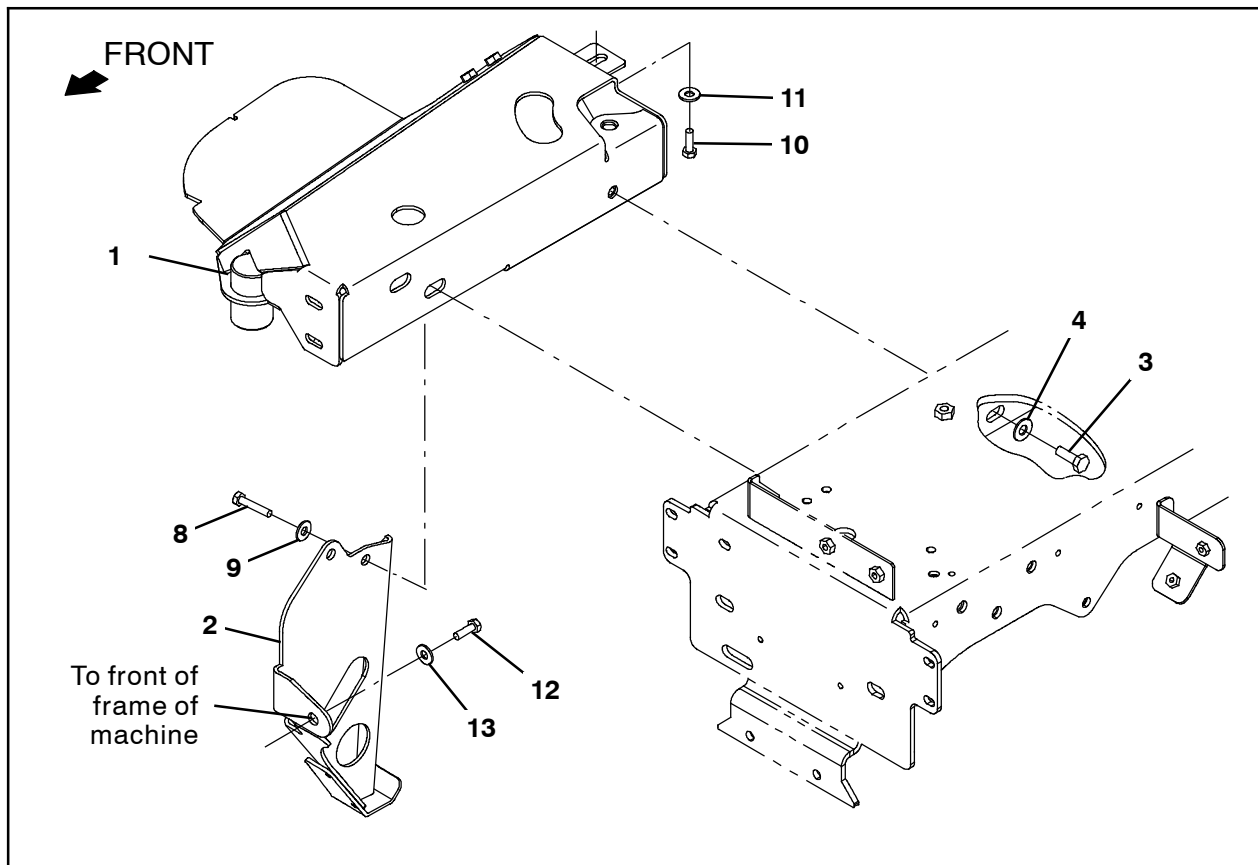

FIG. 2
2. Use one M10 hex screw (3), and one flat washer to install the side brush assembly mount bracket (1) onto the frame of the machine. (Fig. 2)
3. Use two M10 hex screws (8) and two flat washers (9) to install the anti-roll bracket (2) onto the side brush assembly mount bracket (1) and secure the side brush assembly mount bracket (1) to the frame of the machine. (Fig. 2)
4. Use one M12 hex screw (12) and one flat washer (13) to secure the anti-roll bracket (2) to the front of the frame of the machine. (Fig. 2)